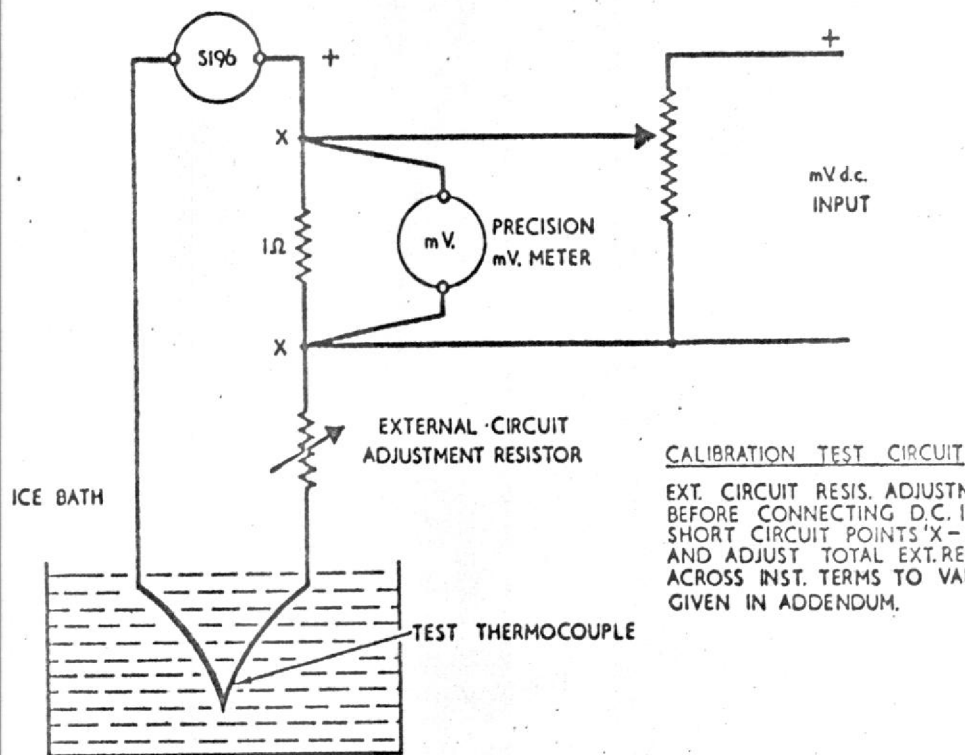

Fig.3 Calibration circuit diagram
- (1) Connect the indicator into the circuit given in Fig.3.
- (2) Apply the millivolt input equivalent to the SET mark (500°C) on the indicator scale and align the pointer to this position by means of the pointer adjuster.
- (3) Check the calibration using the millivolt input values given in the following Calibration Table: